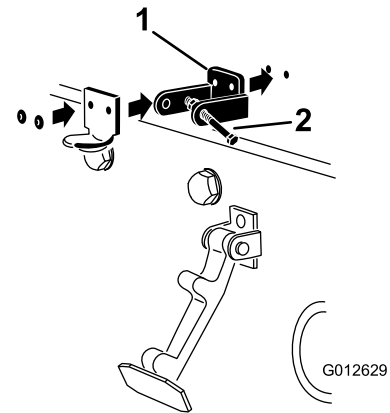

**Figure 4**
2. Remove the 2 rivets securing the hood-latch bracket to the hood (Figure 4).